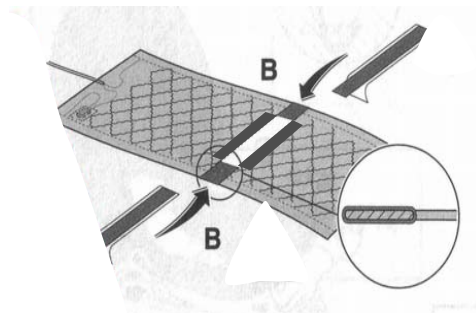

Fig 6
10. Cut out the marked area. With the section removed, wrap lateral "bridges" with the supplied black insulation tape. Repeat procedure on remaining sides of cut out. See Fig 6